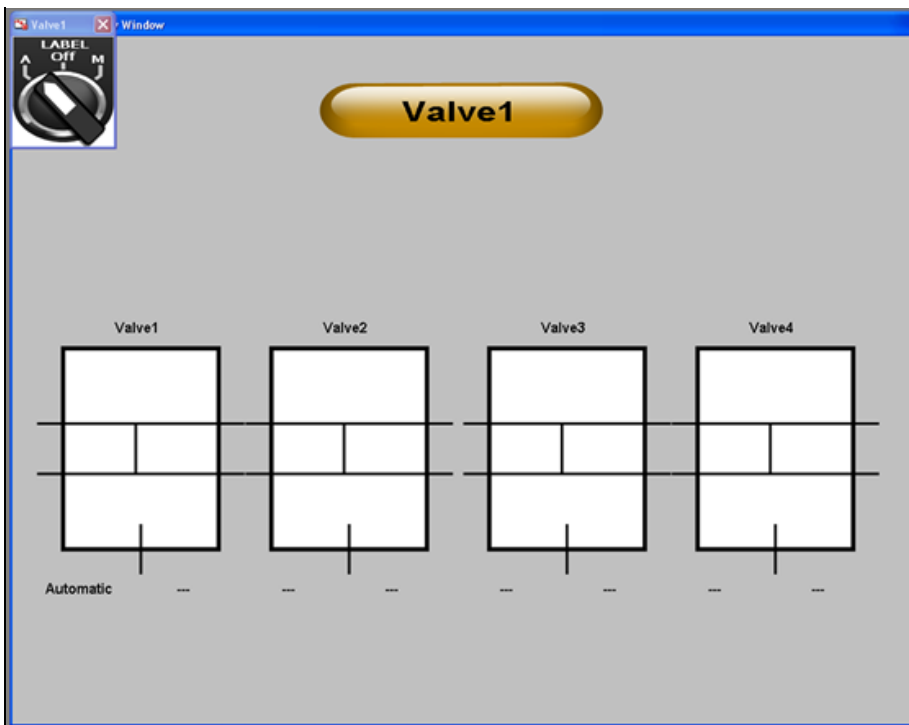

FIGURE 20: AUTOMATIC MODE IN RUNTIME
7. Switch to runtime and click **Valve1** as (Figure 20 below).
8. Click **Automatic** or **Manual**. The Automatic display is shown in Figure 20 (below). **SetCustomProperty** value is working.